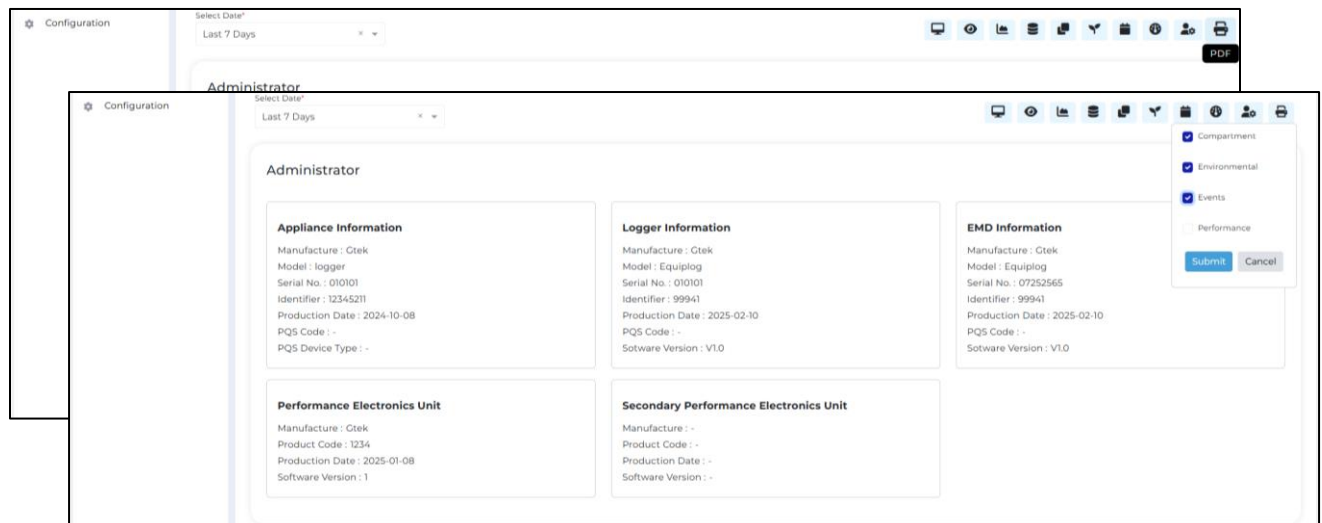

Figure 57 Generate PDF Data Report for selected device
- User can generate PDF data report for Compartment, Environment, Events, and Performance data for the selected time period filter as shown in figure 57.